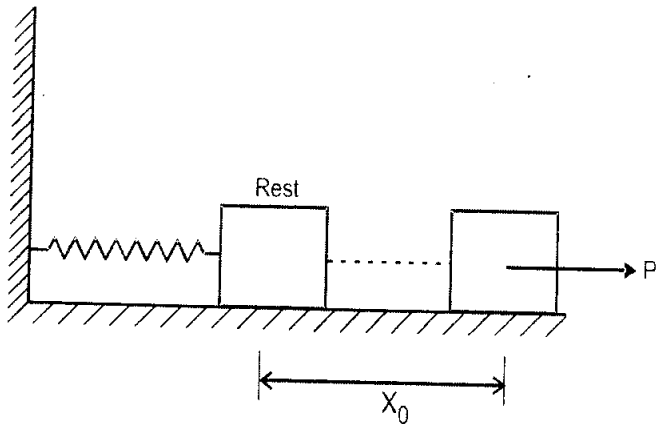

Figure 5
- (b) A particle of mass M is resting on a smooth horizontal plane as shown in Fig. 5. It is attached to a spring which has a stiffness constant ' K '. The mass is displaced by a force P to a distance x_0 from its equilibrium position as shown. Show the equilibrium of the object in this position. [7]